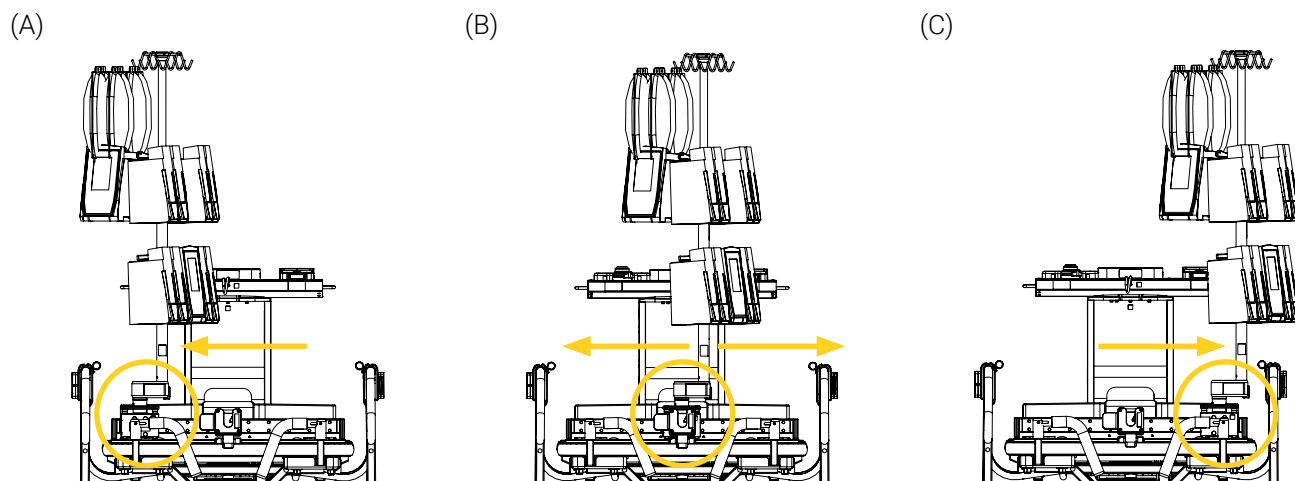

Figure 54: Moving the IV pole from side-to-side on the rail
1. Lift the quick-release handle located on top of the sliding block, then move the IV pole left or right until you hear the click sound and the locking system has engaged (Figure 54). Refer to the « Activate the Linear Gliding System » section on page 37 and « Deactivate the Linear Gliding System » section on page 37 if needed.